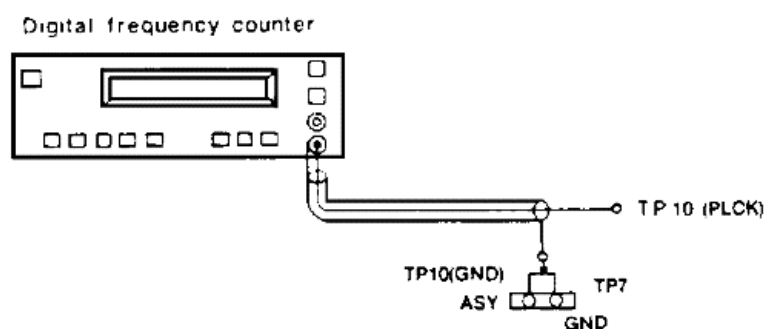

FIGURE 28-9 The frequency-counter connections when adjusting a Realistic PLL-VCO.
- 3 Connect the digital frequency counter to test point (PLCK) and test point (GND) TP10 (Fig. 28-9).